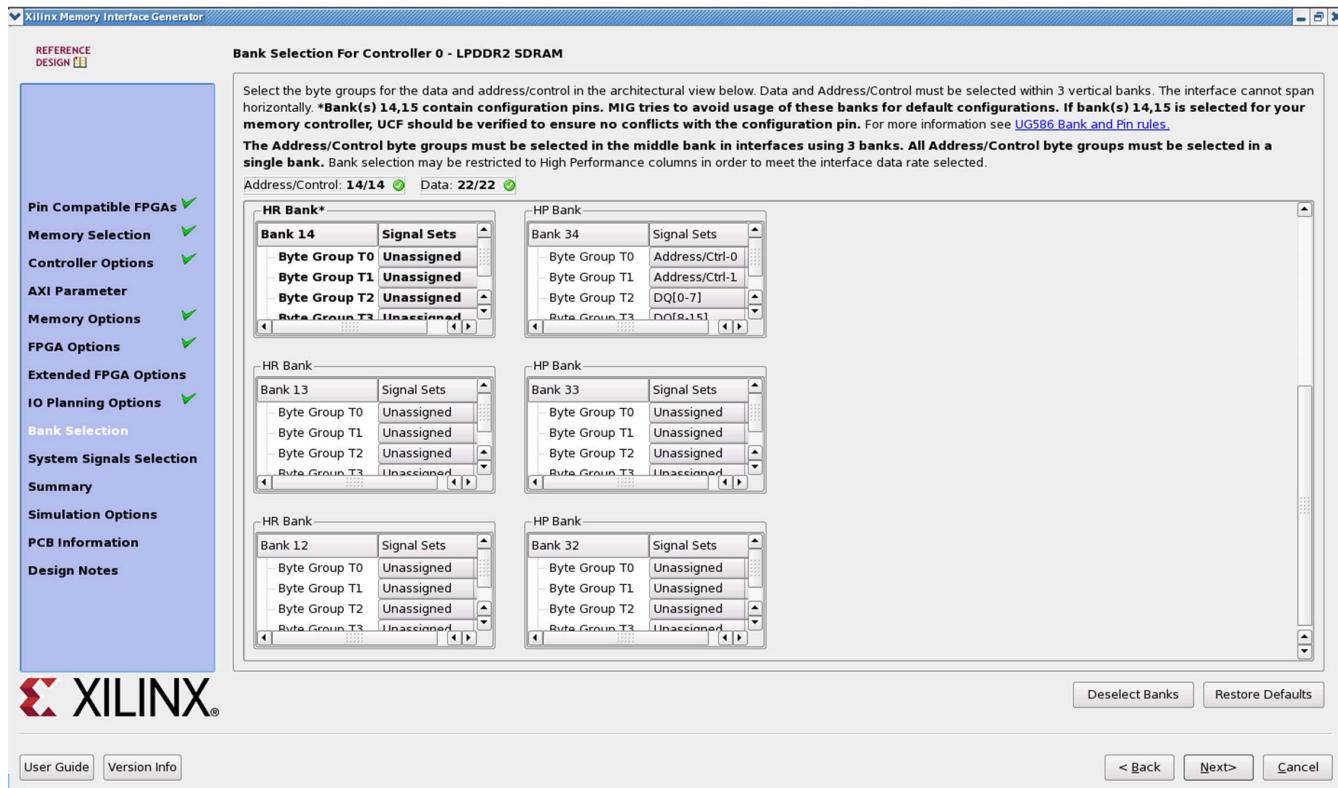

**Figure 4-22: Pin/Bank Selection Mode**
- **Pin/Bank Selection Mode** – This allows you to specify an existing pinout and generate the RTL for this pinout, or pick banks for a new design. Figure 4-22 shows the options for using an existing pinout. You must assign the appropriate pins for each signal. A choice of each bank is available to narrow down the list of pins. It is not mandatory to select the banks prior to selection of the pins. Click **Validate** to check against the MIG pinout rules. You cannot proceed until the MIG DRC has been validated by clicking **Validate**.